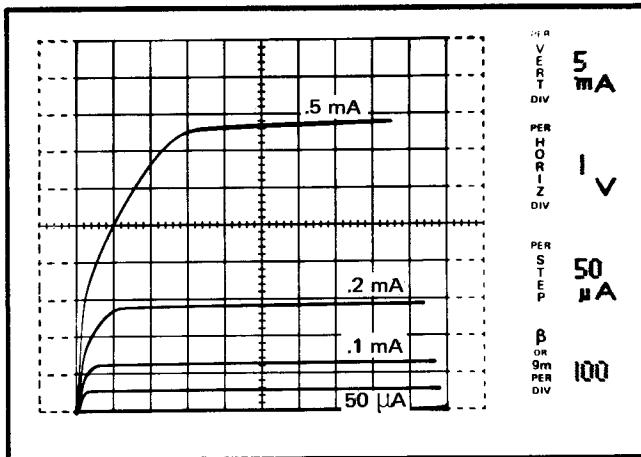

Fig. 2-12. Collector current vs. Collector-Emitter voltage for various settings of the AMPLITUDE switch.
51. Turn the AMPLITUDE switch until a step appears on the CRT. Note that the greater the step amplitude, the greater the collector current (see Fig. 2-12). Set the AMPLITUDE for the minimum step amplitude which produces a noticeable step in the display.